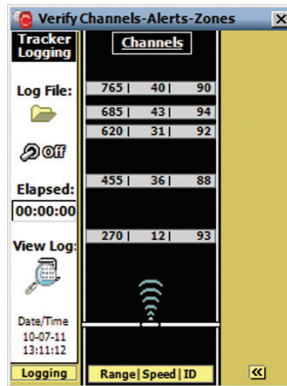

Figure 8.21 – Tracker Logging View
- **Logging View** - Allows you to create a log file (see Figure 8.21). The data can then be post-processed for performance analysis and can be used as the tracker data source when establishing a virtual connection.